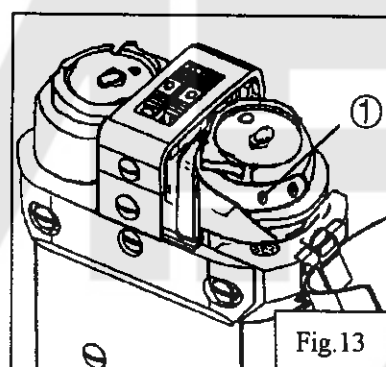

Fig.13
9. Lower thread tension (Fig.13):
Turning the screw 1 clockwise will increase the tension of lower thread, otherwise, the tension of lower thread will decrease. (Fig.13).